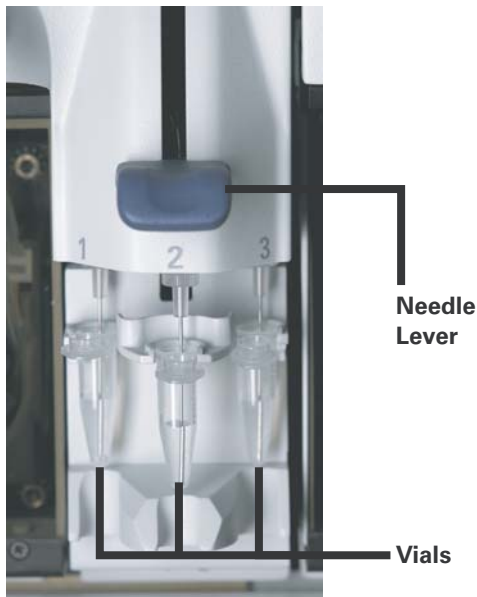

Figure 2.9
- d. When you have loaded the vials, gently but firmly press down on the needle lever to insert the needles into the vials. The run will commence automatically. See Figure 2.8 and Figure 2.9.